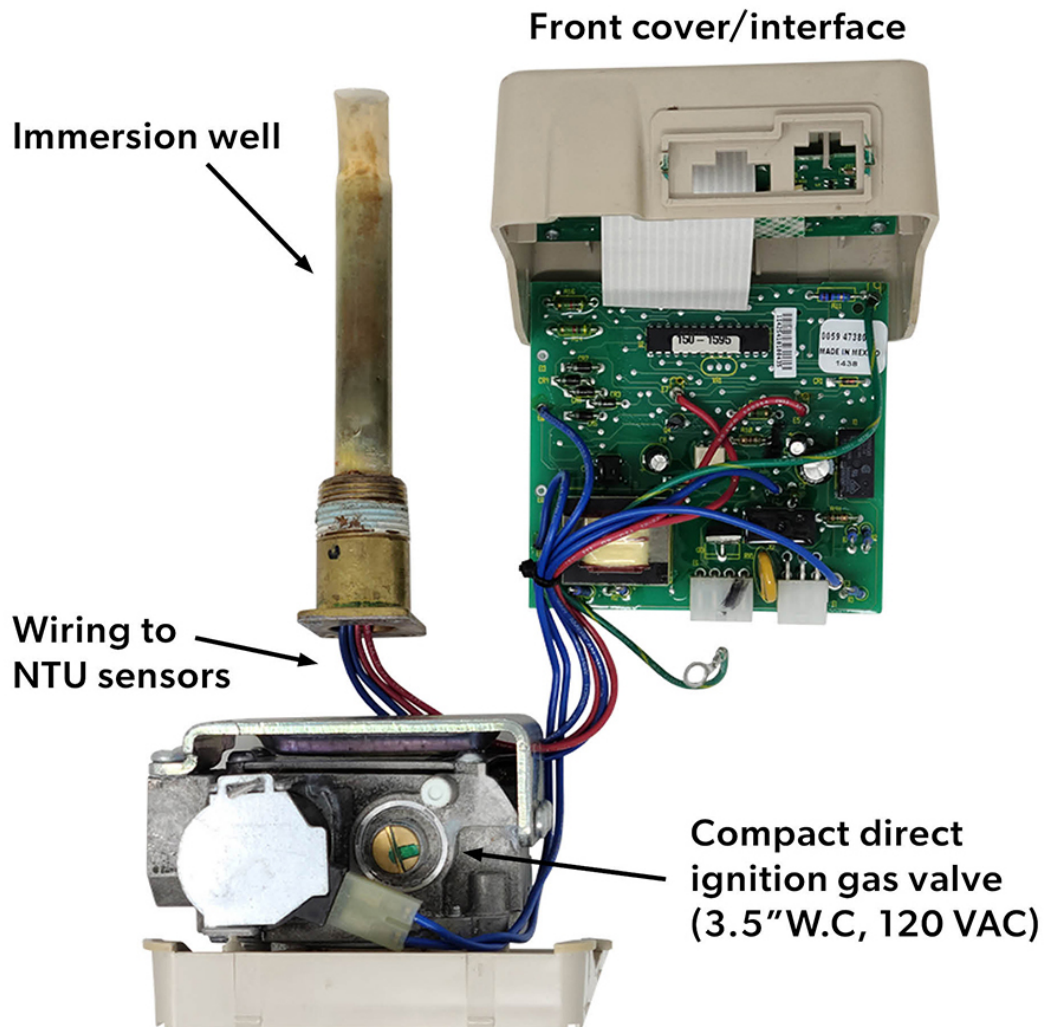

Figure 78. Disassembled electric gas valve
These valves will also use dual NTC thermistors in the immersion well to measure the water temperature (Figure 78). In addition to the task of operating the gas valve to maintaining the water temperature, the internal micro controller will also activate, monitor and self diagnose the; vent blower, pre-purge period, vent pressure switch, electric igniter, electronic flame sensor, vent temperature switch, water temperature high limit (ECO), and flammable vapour (FV) sensor.